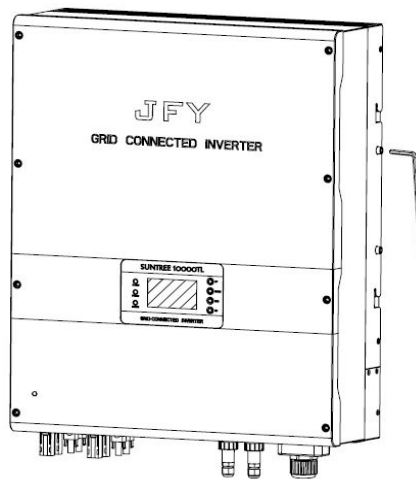

Fig.6 Fix safety-lock screws
**NOTE:** Ensure **SUNTREE xxxxTL** is not exposed to direct sun radiation or other external heat sources, including heat from units below it (see fig.6). Indeed, the heat generated by the inverters of the bottom rows could increase ambient temperature to the detriment of the inverters located in the top rows. At temperature above 50°C, output power of the top row units could be derated.
connection system should be designed and implemented by a qualified technician. JFY-tech also provides the solar inverter with an integrated DC switch demonstrated in dashed border in Fig.6. -S suffix indicates the inverter is integrated a DC switch in PV input side.